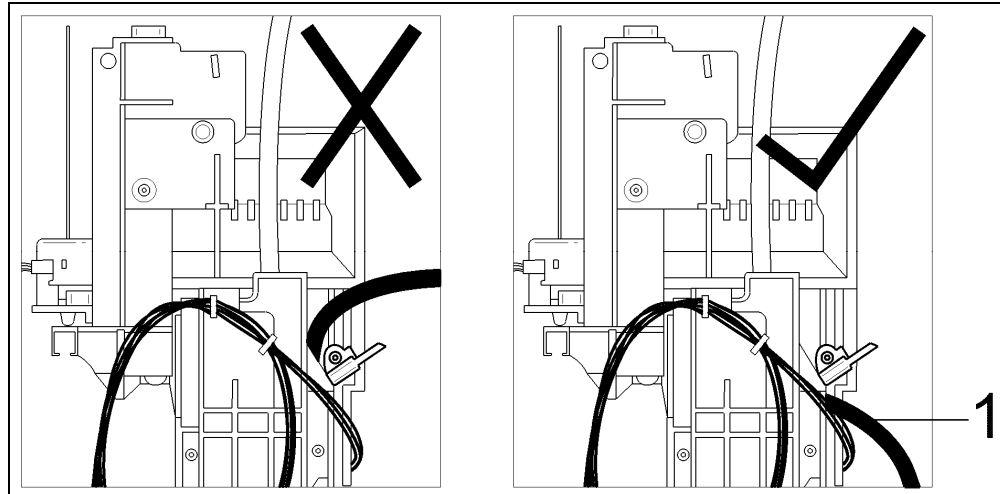

Figure 001-22: Coffee Hose Placement
1. On the new dispenser, make sure that the coffee hose is laid correctly (Figure 001-22, Item 1).